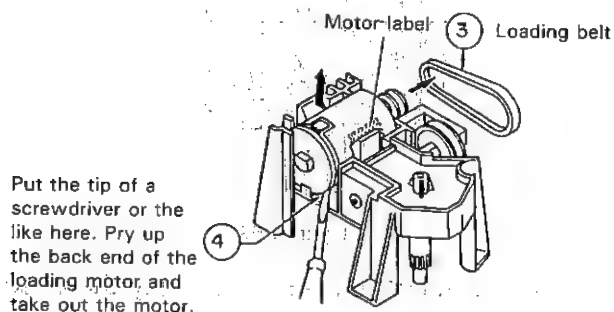

Figure 1-71.
3. Take out the loading belt ③.
4. Pry up the back end of the loading motor with a screw driver or the like as in Figure 1-71 and take out the motor.